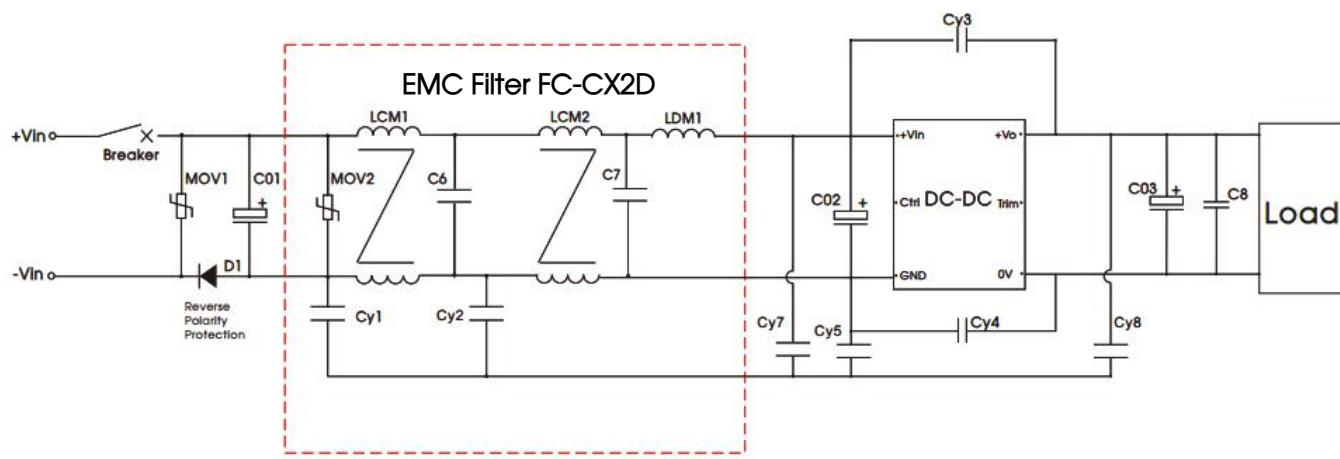

Fig.4
500kHz-30MHz	93dBuV (see Fig. 4 for recommended circuit)
500kHz-30MHz	73dBuV (see Fig. 4 for recommended circuit)
230MHz-1GHz	47dBuV/m at 10m (see Fig. 4 for recommended circuit)
1GHz-6GHz	47dBuV/m at 10m (see Fig. 4 for recommended circuit)
800 – 1000MHz 20V/m (see Fig. 4 for recommended circuit)
1400 – 2000MHz 10V/m (see Fig. 4 for recommended circuit)
2000 – 2700MHz 5V/m (see Fig. 4 for recommended circuit)
0.15MHz-80MHz 10V r.m.s (see Fig. 4 for recommended circuit)	perf. Criteria A
160 – 165MHz	20V/m (see Fig. 4 for recommended circuit)
450 – 470MHz	20V/m (see Fig. 4 for recommended circuit)
800 – 960MHz	20V/m (see Fig. 4 for recommended circuit)
1400 – 2000MHz	20V/m (see Fig. 4 for recommended circuit)